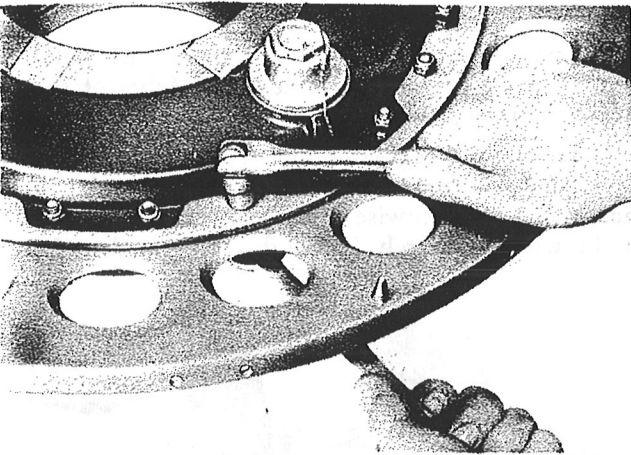

Figure 50—Removing Cover Mounting Bolts which Hold Bulkhead
(1) Remove the eight cover mounting bolts and nuts which retain the spinner bulkhead in place. (See figure 50.)